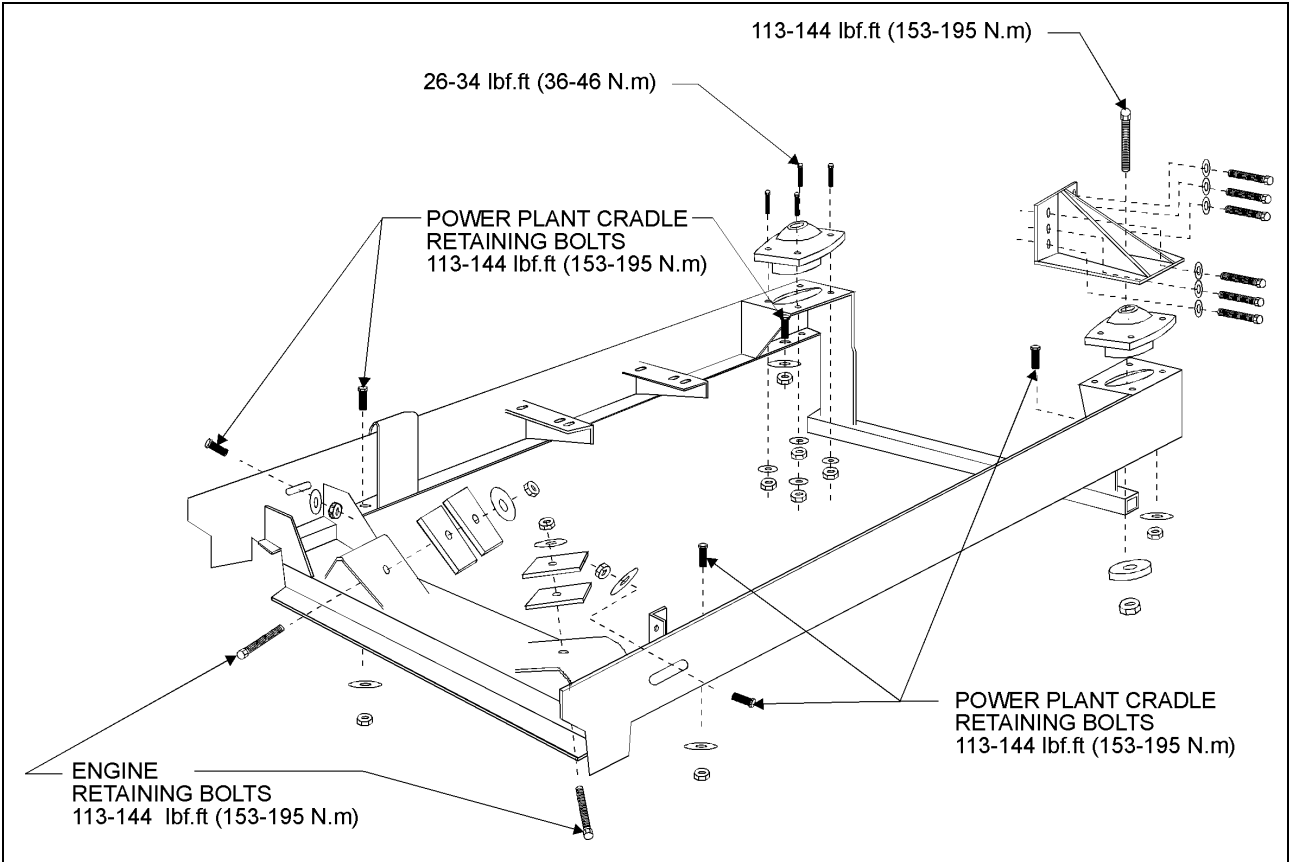

FIGURE 18: POWER PLANT CRADLE INSTALLATION
39. Remove the six retaining bolts, washers and nuts securing the power plant cradle to the vehicle rear subframe (Fig. 18).
Two rubber mounts are used at the front of the engine while other two are mounted on each side of the flywheel housing, on vehicles equipped with automatic and manual transmissions (Fig.18).